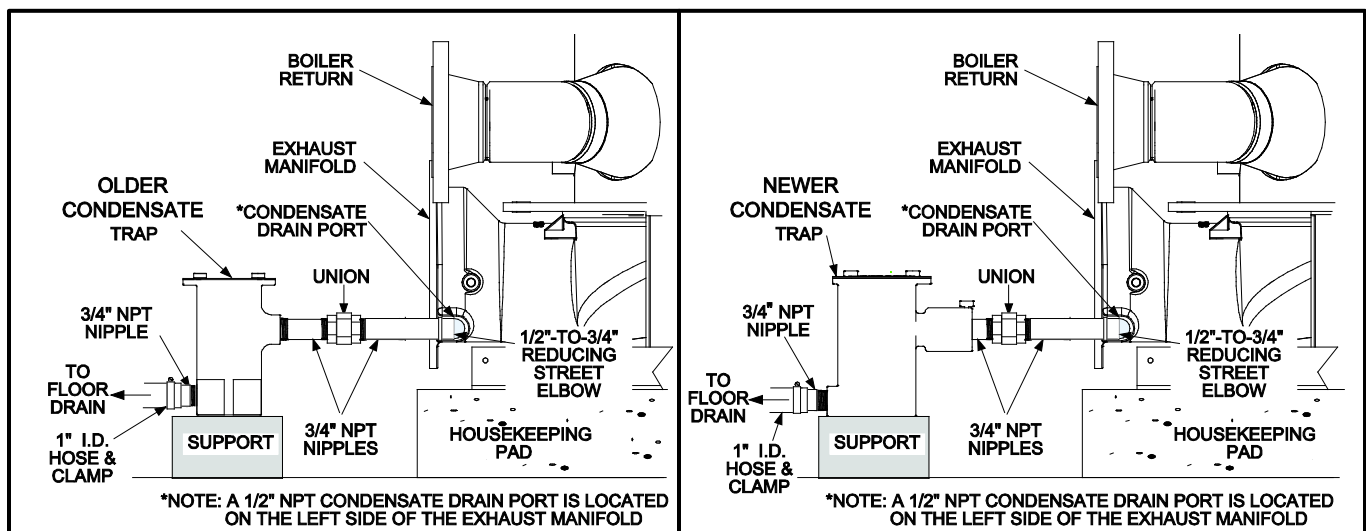

Figure 10: Exhaust Manifold Condensate Drain Connections. Old (left) and New (right) Style Trap – BMK2.0LN (Venturi Design) Partial Left Side View
For Benchmark 3.0 boilers, the external Condensate Trap (P/N 24060) is attached to the connecting manifold drain pipe using a special adapter (Figure 10).
There are two slightly different types of Condensate Traps that may be used in your configuration; an older style with a separate inlet adapter, and a newer style with a built-in adapter (see Figure 10). Maintenance is the same, except that the newer style does not use an orifice gasket (Step 5).
1. Remove the connections on the inlet and outlet sides of the Condensate Trap shown in Figure 10.
7. Check the condensate drain port on the Exhaust Manifold (Figure 10) to ensure it is clear of blockage.